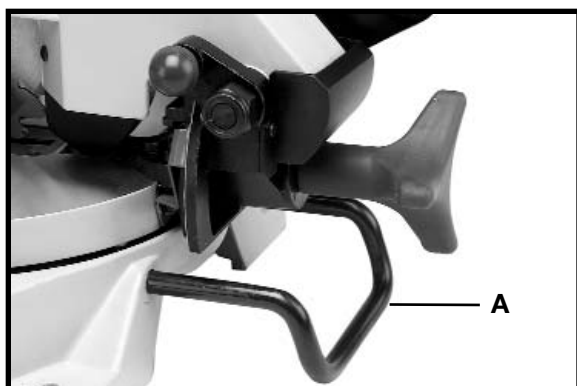

Fig. 17
A rear support bar (A) Fig. 17 is provided to prevent the machine from tipping to the rear when the machine is being used. For maximum support the bar (A) should be pulled out as far as possible.